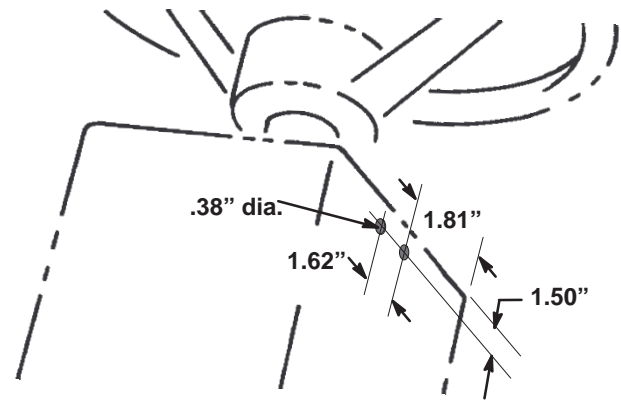

Figure 10
2. Remove (4) screws securing cover to top of steering tower.
4. Using dimensions shown in figure 10, locate, mark and drill (2) .38" dia. holes in left side of steering tower.